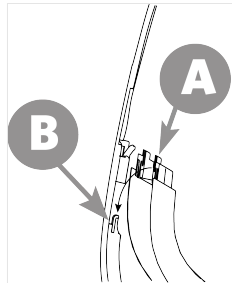
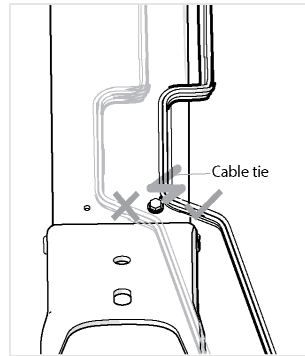

Figure 7
Figure 8
- Ensure cables do not catch on the latch of the forward frame cover (Figure 7) and are tied to the outside, away from the screw (Figure 8).
- Ensure the **A** clips on to lower frame cover hook over the **B** clips on the right and left side panels (Figure 7). Gently secure the parts together with no gap between them.